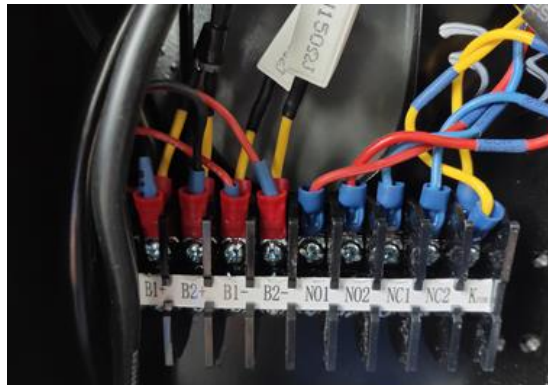

Figure 32
3. On the machine side disconnect the Brake and Brake Switch wires for the brake that is to be worked on, see Figure 32.